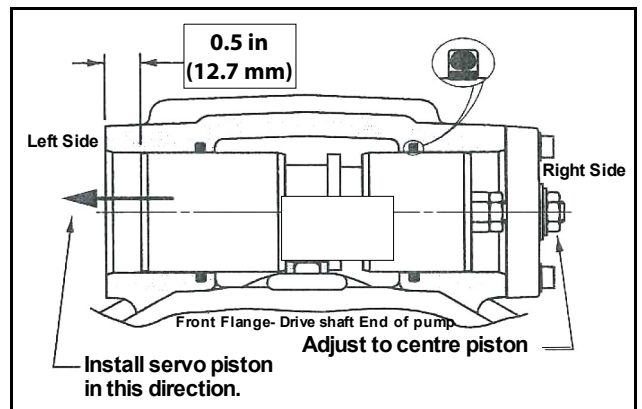

Figure 5-124. Servo Piston Installation
4. Screw the cover plate onto the servo piston assembly. Install new cover plate gasket in place on housing. Install servo piston assembly and cover plate into servo piston bore in right side of housing (as shown in Figure 5-124. Retain cover plate with four each washers and capscrews. Torque capscrews 40 to 48 in.lbs. (4.5 to 5.4 Nm). To obtain neutral, centering the servo piston assembly is required. Measure in from the left side and set servo piston 0.5 in. (12.7 mm) from surface of housing servo bore as shown in Figure 5-124.